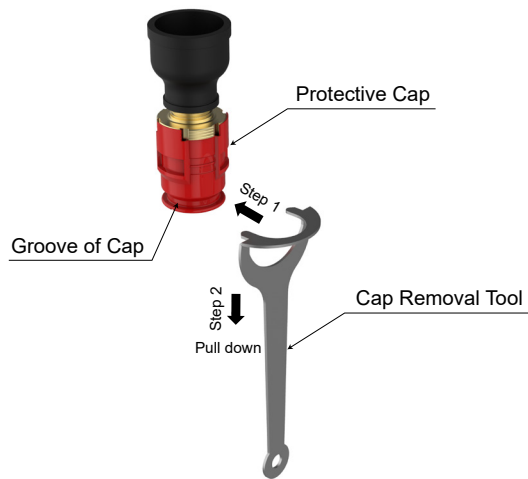
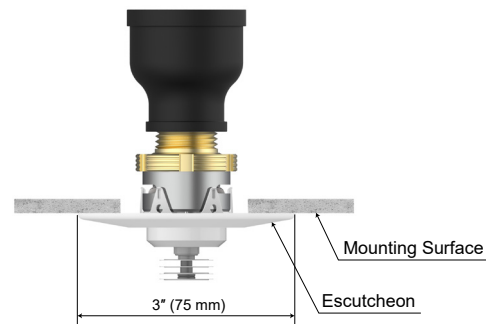
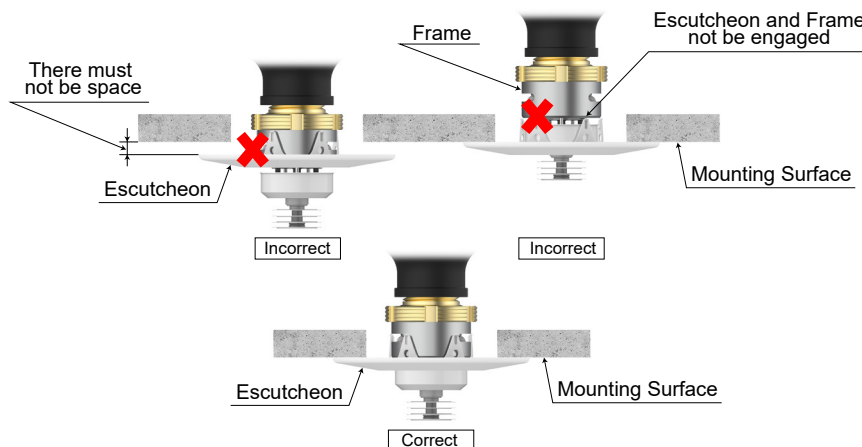

Figure 5: Protective Cap Removal
Figure 6: Installation
Figure 7: Installation (Correct and Incorrect)
Step 6: After the ceiling has been completed with the 2-inch (50mm) diameter clearance hole, use the Cap Removal Tool (Ref. Figure 5) to remove the Protective Cap and then push on the Escutcheon until its flange just comes in contact with the ceiling (Ref. Figures 6 & Figure 7).